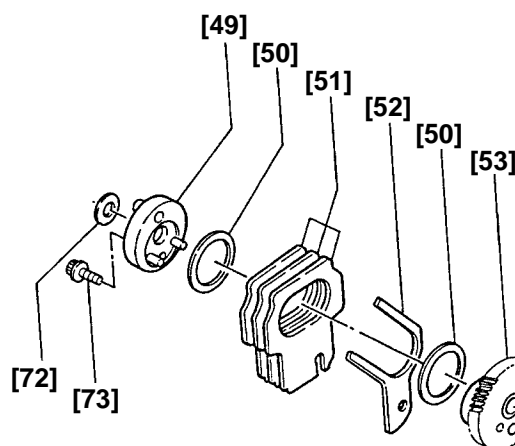

Fig. 8
(7) Disassembly of the Weight Holder [49] from the Gear Cover [17] (Fig. 8)